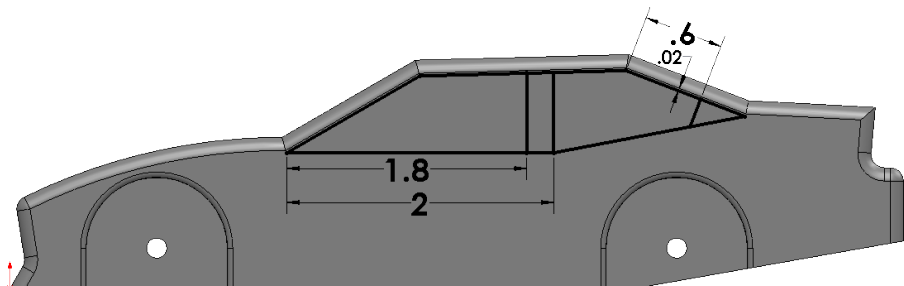

Fig. 48
Step 9. Dimension as shown in Fig. 48.